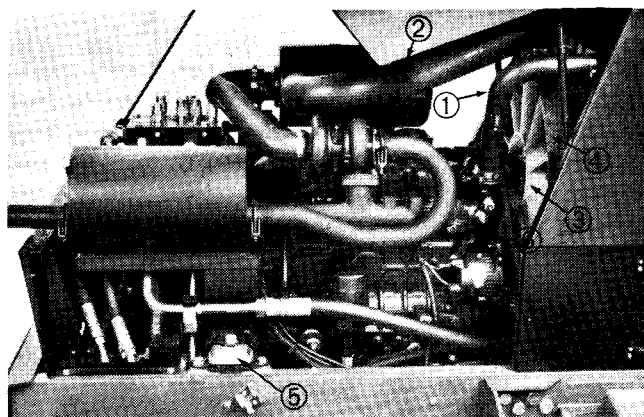
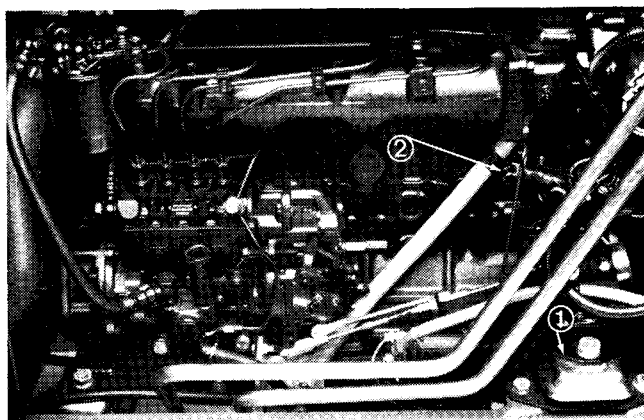

Figure 35
Figure 36
1. Notch on battery tray rail (2) 3. Capscrew (4)
14. Loosen hose clamps and remove upper radiator hose (Fig. 35). Loosen hose clamps and remove air cleaner intake hose.
15. Remove engine cooling fan and fan coupler (Fig. 35). Remove hydraulic reservoir breather hose clamp from fan shroud. Remove fan shroud.
16. Use two (2) hanger bolts on engine to connect a short length of chain to use as a sling. One bolt is on left rear of engine where ground strap from battery is connected (Fig. 35). Other bolt is at front right of engine next to alternator (Fig. 36).
17. Remove four (4) large capscrews securing engine mount brackets to engine mounts (Fig. 35, 36)
18. Connect hoist or block and tackle chain at center of short section of chain. One person should operate hoist or block and tackle and two (2) other people should help guide engine out of chassis. Remove engine from chassis. Be careful when removing engine to prevent damage to engine, radiator, hydraulic tubing or other parts. Mount engine in an engine rebuilding stand.